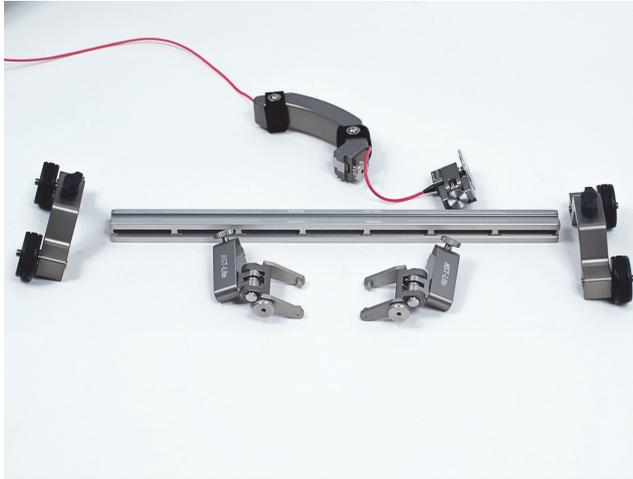

Figure 1-2 Disassembled scanner
1. Loosen the wheel block, the probe holder, the handle, and the wheel encoder thumbscrews, and then remove all the components from the frame bar (see Figure 1-2 on page 10).